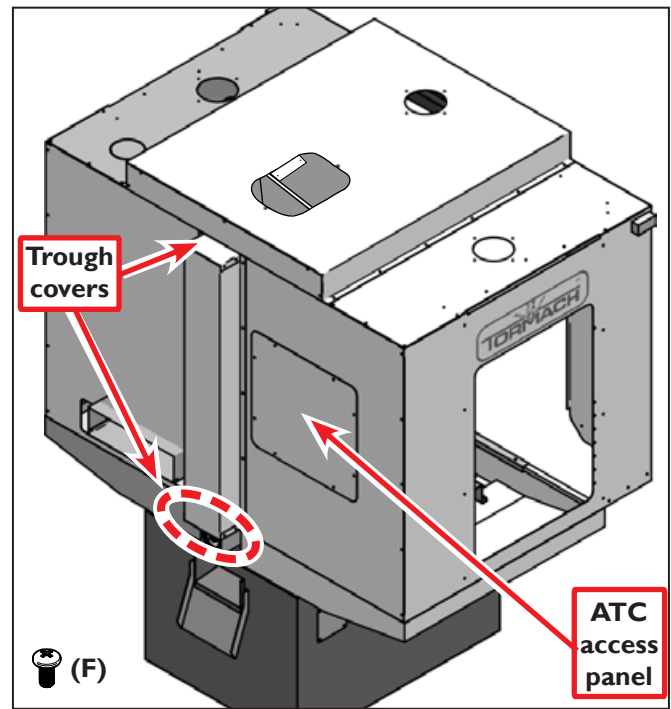

Figure 15
34. Place the two Trough Covers (E.23) onto the center back from the previous step (see **Figure 15**). Loosely fasten with (F) screws along the edges of the panels.
35. Place the ATC Access Panel (E.35) onto the left rear panel (see **Figure 15**). Loosely fasten with (F) screws along the edges of the access panel.